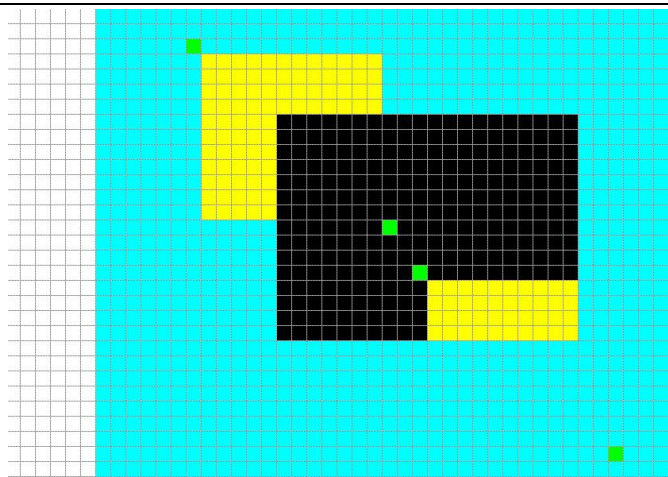

Figure 6-14
3. Copy to the non-graphic part of the target area - Copy to the non-graphic part of the target area (the color in the target picture is black), and fill in the non-graphic part of the target picture with the source picture, as shown in Figures 6-14.